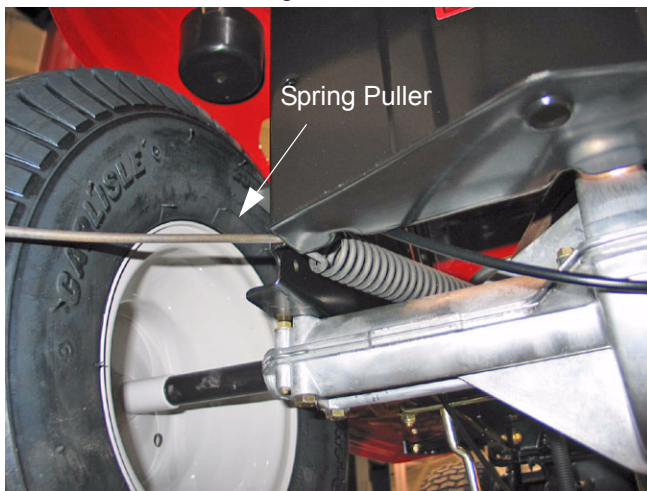

Figure 30
- 8.2. Using a spring puller or length of starter cord, remove the large spring attached between the variable speed idler arm and the rear of the tractor frame. See Figure 30.